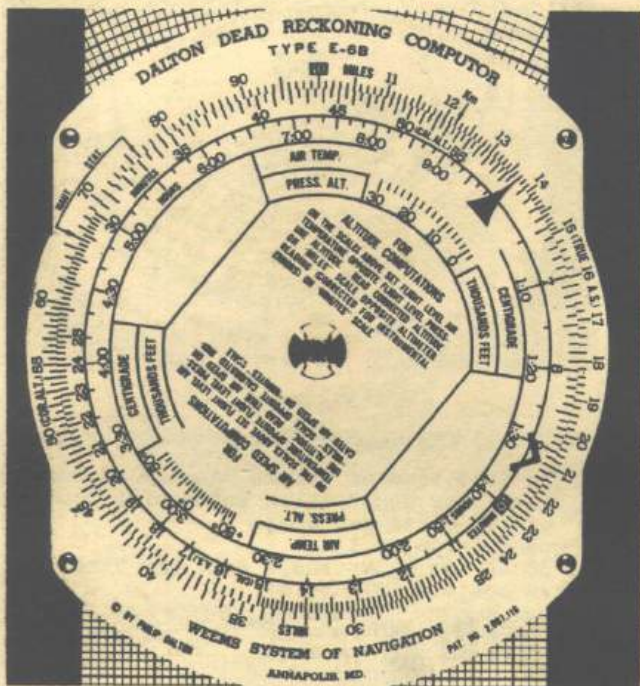

Figure 6
- Read distance, 210 miles, opposite 1:32 on the minutes scale. (figure 6)